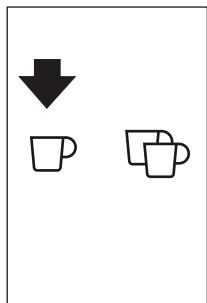

Fig. 19
- ▶ You can make just one coffee at a time by pressing the icon □ (B10) (Fig. 19).